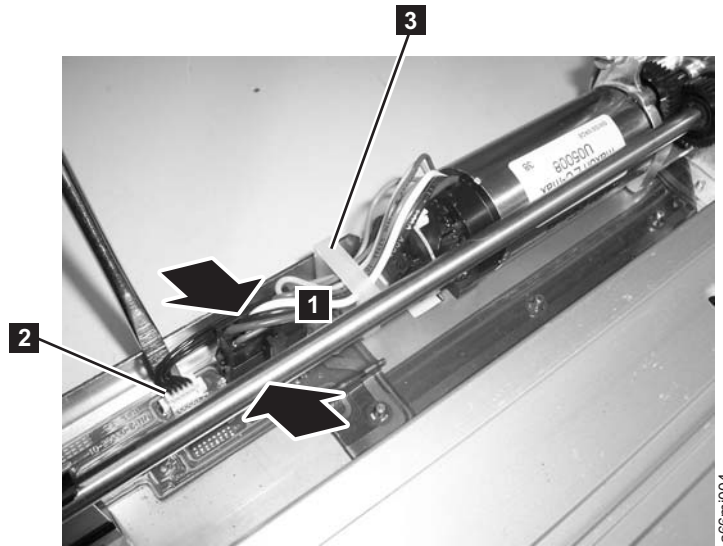

Figure 8-53. Y motor connector
3. Connect the small white connector (**2** in Figure 8-53 on page 8-56).
4. Connect the large black connector. See Figure 8-53 on page 8-56.
- a. Pinch the latch on the cable connector (**1** in Figure 8-53).